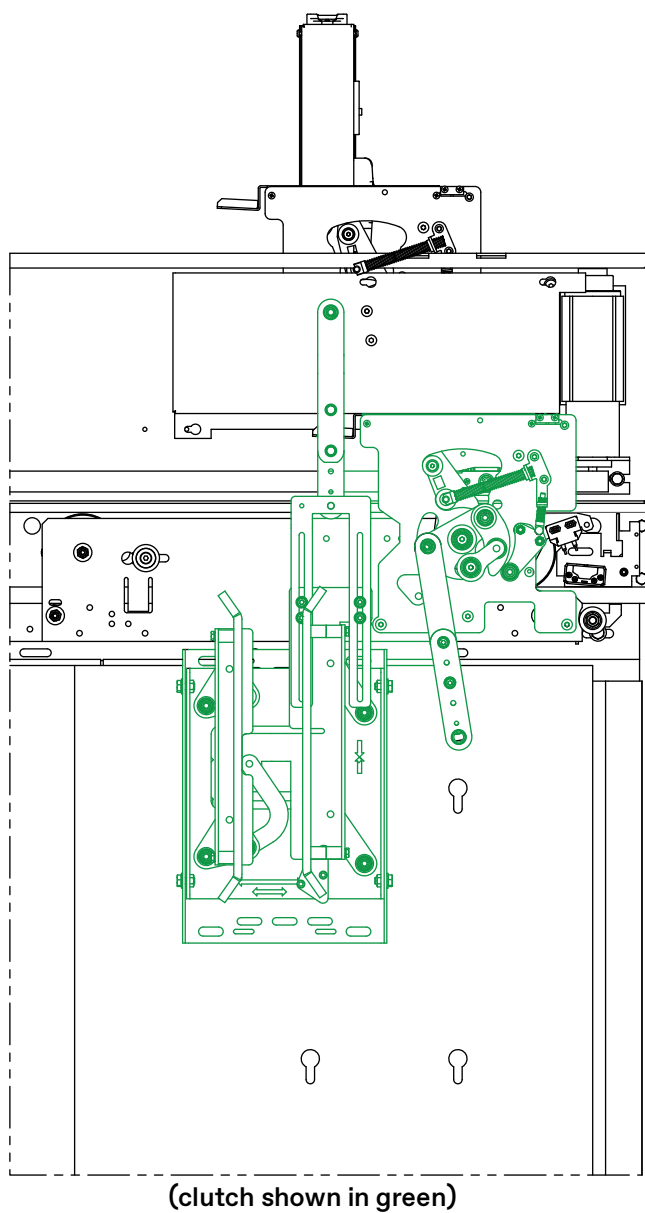

Figure 38 - Clutch Installation
10. Install the clutch. See Figure 38.